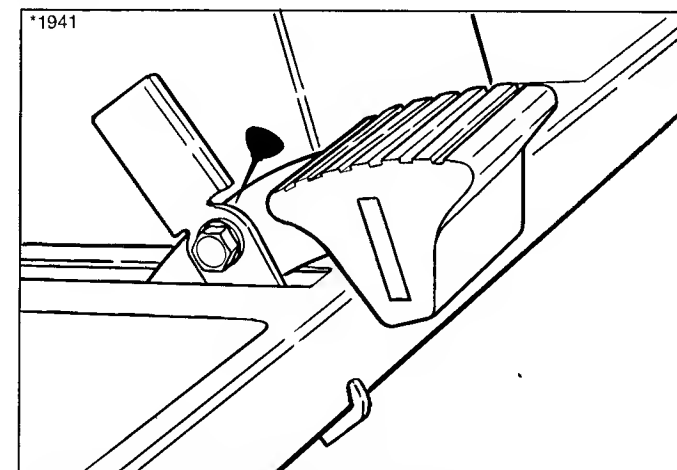
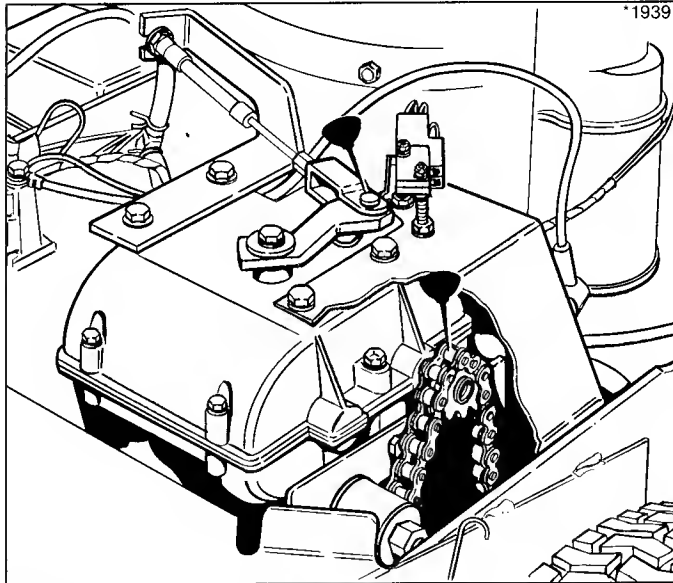

Figure 9. Lubricate Brake Pedal Pivot Point
Figure 10. Lubricate Gear Shift Linkage and Chain (Gear Model Shown)
1. With an oil can, apply a few drops of oil to points indicated with oil can in figures 9 through 18. Oil the drive chain (figures 10 and 13) with an approved chain lubricant.